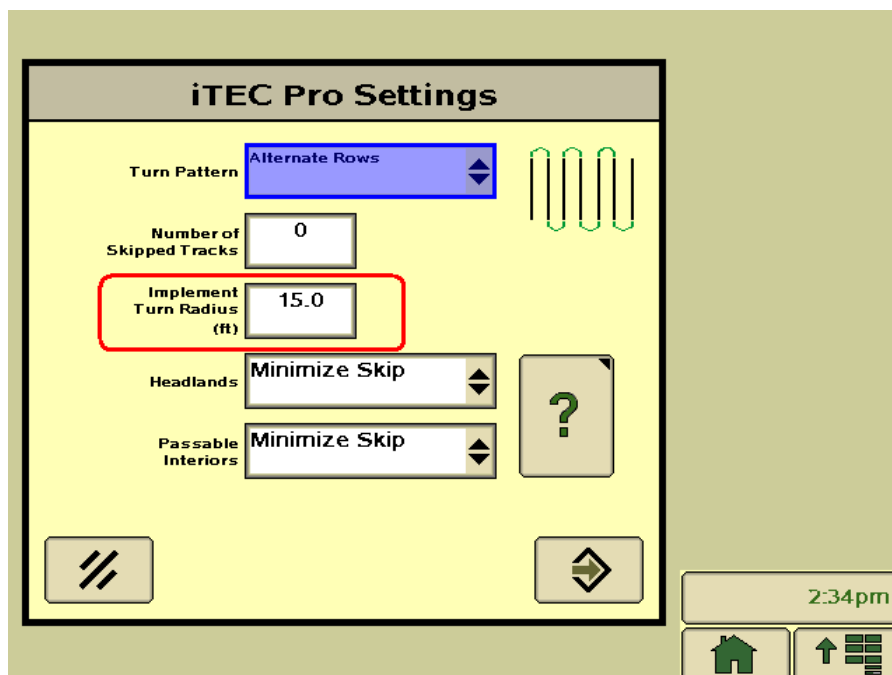
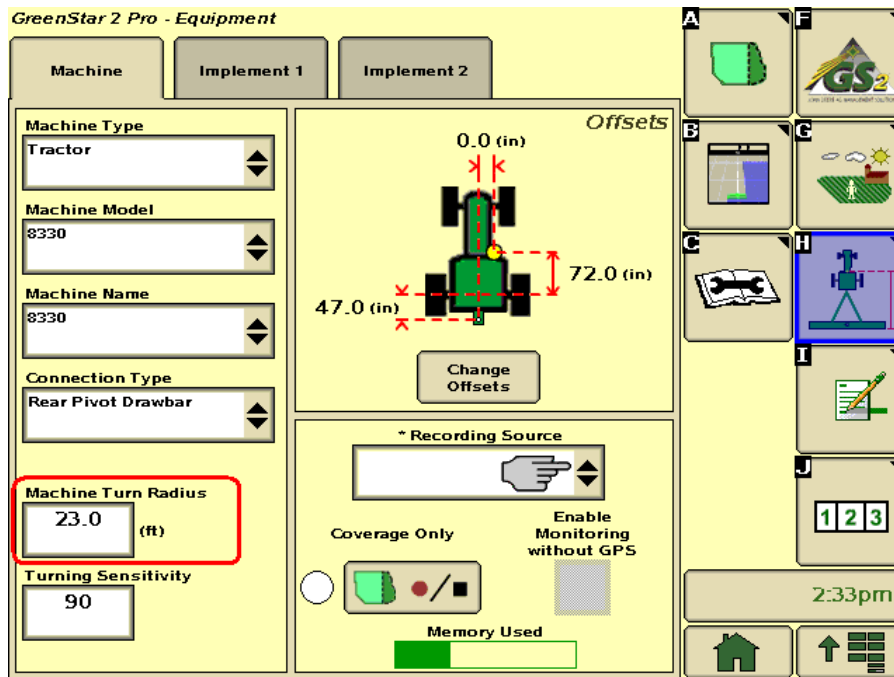

Figure 5
Figure 6
- iTEC Pro uses the largest of these two values to generate the end turn in the headlands. For example, with the settings shown in Figures 5 & 6, 23' would be used by iTEC Pro.
- Keep this in mind when trying to raise or lower the Turn Radius for tuning purposes. In Figure 5, no adjustment to the turn will be made by changing the Implement Turn Radius unless it is greater than 23 ft, since that is what the Machine Turn Radius is set to (Figure 6).